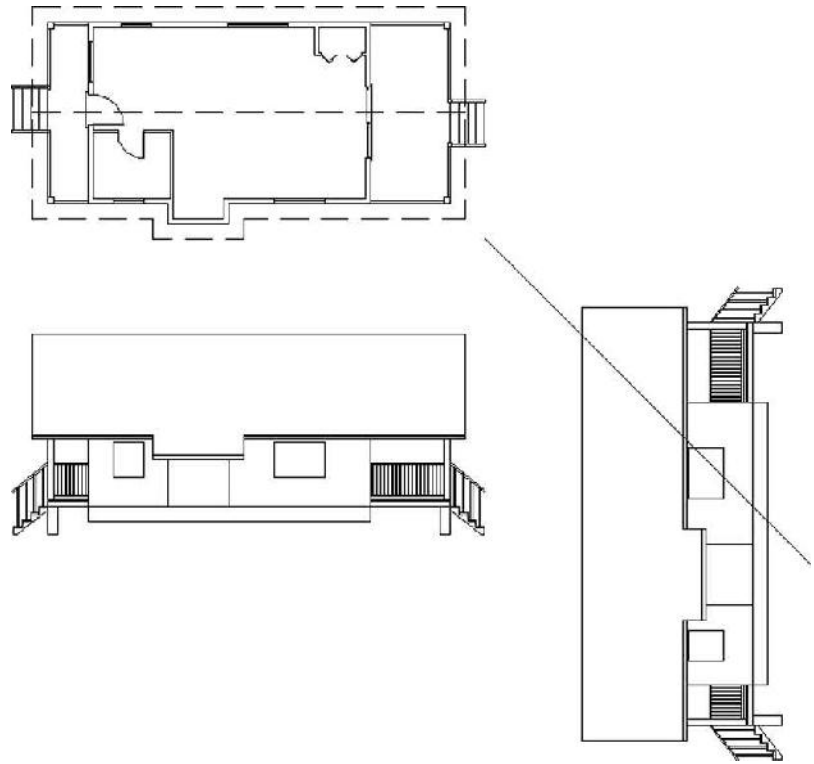

FIGURE 10.52: The copied elevation moved and rotated into place with the view adjusted
28. Zoom out, and use Zoom Window to adjust the view (see Figure 10.52).